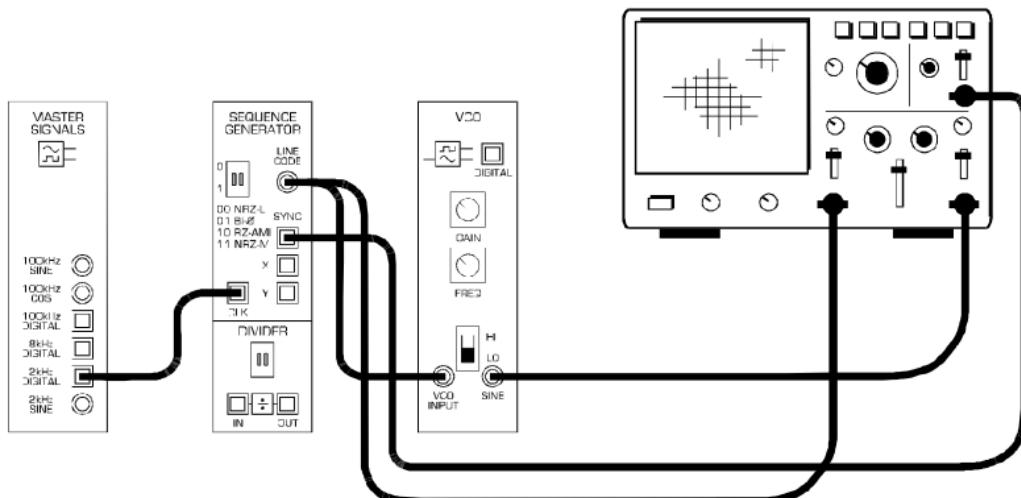
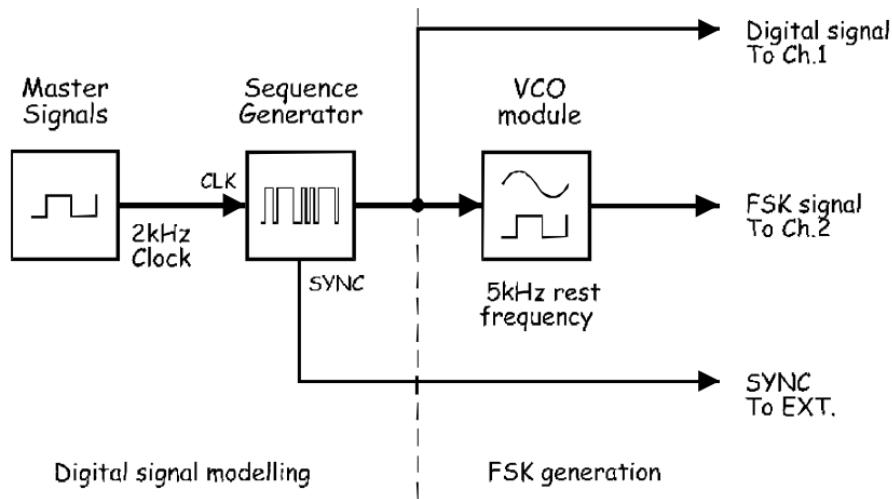

Figure 23:
Figure 24:
8. Connect the setup as shown in Figure 23.
9. The setup shown in Figure 23 can be represented by the block diagram seen in Figure 24. The Sequence Generator module is used to model a digital signal and its SYNC output is used to trigger the scope to provide a stable display. The VCO module is used to generate the FSK signal.